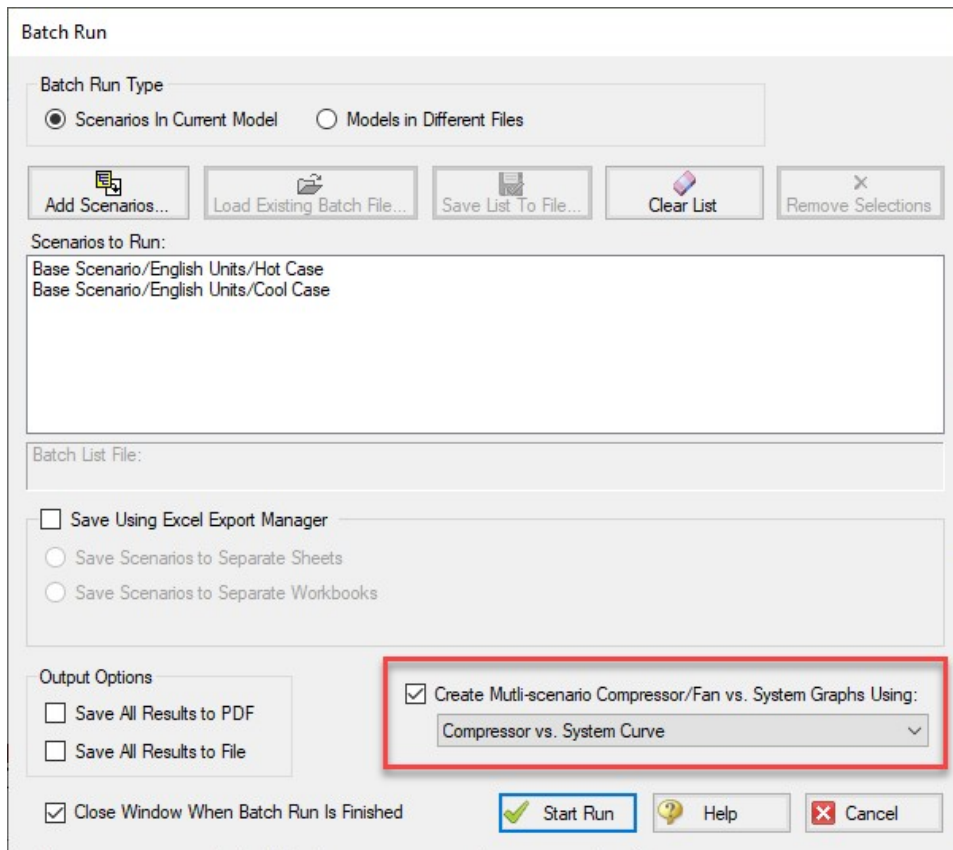

Figure 6: Multi-scenario batch run option enabled in the Batch Run window
2. Launch the Batch Run window found in the File menu. Select the option to have the Batch Runs create Multi Scenario Compressor/Fan vs. System curves, and select the template Compressor/Fan vs. System curve as shown in Figure 6. If you have multiple templates, all options will be shown for selection.